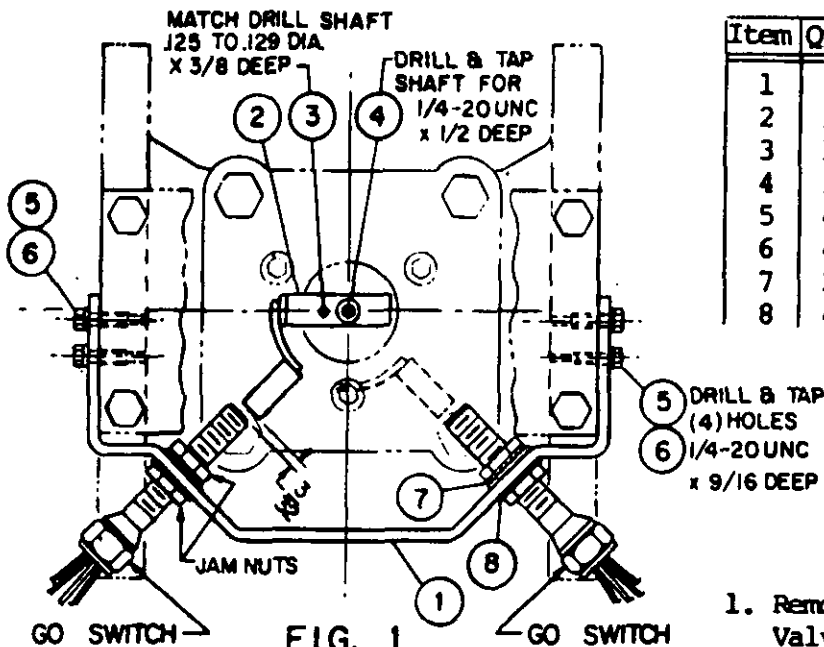

FIG. 1
4. Place Switch Activator (item 2) on shaft and secure with flat head screw (item 4). Then orient Switch Activator as shown in figure 1. Match drill shaft with hole in Switch Activator and drive rollpin (item 3) into hole to prevent rotation.
5. Fit Mounting Bracket (item 1) to sides of Actuator mounting plate support and mark location of four mounting holes, drill and tap four 1/4-20 UNC x 9/16 dp. Then secure Mounting bracket (item 1) with items 5 & 6.
6. Insert GO Switches into slots on Mtg. Bracket (item 1) and secure with two jam nuts that come with switches and washers items 7 & 8.
7. Adjust Switches to sense Activator (item 2) in full open and full closed positions.